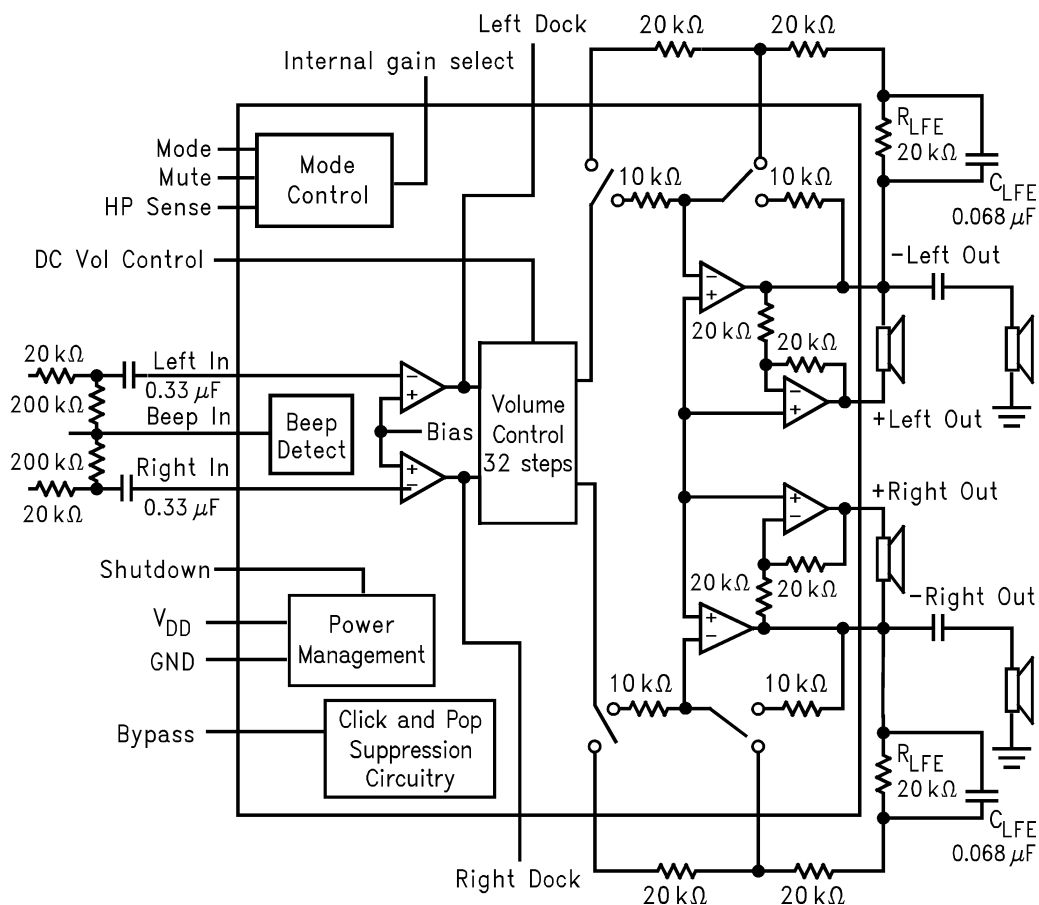

Figure 3. LM4835 Block Diagram
- (1) All voltages are measured with respect to the ground pins, unless otherwise specified. All specifications are tested using the typical application as shown in Figure 3.
- (2) Absolute Maximum Ratings indicate limits beyond which damage to the device may occur. Operating Ratings indicate conditions for which the device is functional, but do not ensure specific performance limits. Electrical Characteristics state DC and AC electrical specifications under particular test conditions which ensure specific performance limits. This assumes that the device is within the Operating Ratings. Specifications are not ensured for parameters where no limit is given, however, the typical value is a good indication of device performance.
- (3) Typicals are measured at $25^\circ C$ and represent the parametric norm.
- (4) Datasheet min/max specification limits are ensured by design, test, or statistical analysis.
- (3) Typical values are measured at $25^\circ C$ and represent the parametric norm.
- (5) When driving 3Ω loads and operating on a 5V supply, the LM4835MTE must be mounted to the circuit board and forced-air cooled.
- (6) When driving a 3Ω or 4Ω loads and operating on a 5V supply, the LM4835LQ must be mounted to the circuit board that has a minimum of 2.5 in^2 of exposed, uninterrupted copper area connected to the WQFN package's exposed DAP.
- (7) When driving 4Ω loads and operating on a 5V supply, the LM4835MTE must be mounted to the circuit board.